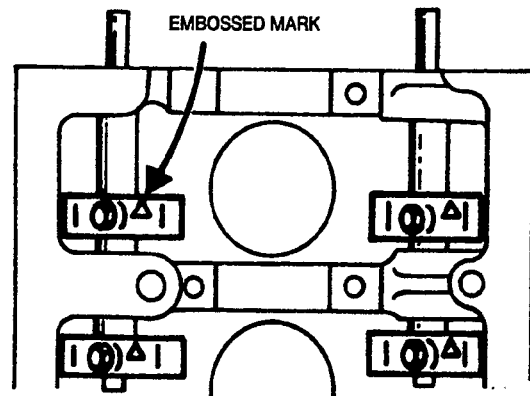

FIGURE 9-37. INSTALLING BALANCER WEIGHTS IN PROPER DIRECTION
2. Fit the balancer shafts in the cylinder block/bearing hole, and install the balance weights. The weights must be installed with the embossed marks (triangle) at front as shown in Figure 9-37.